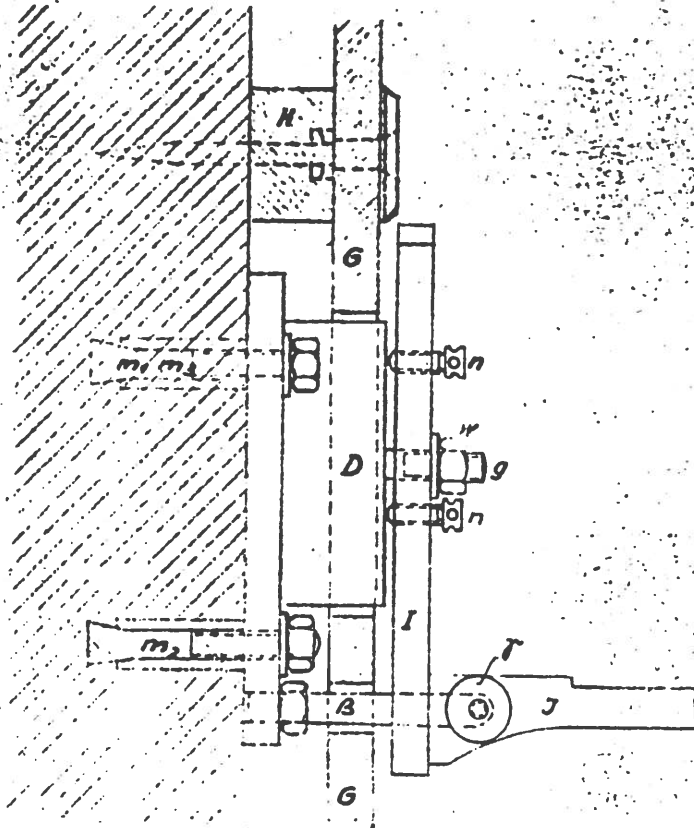
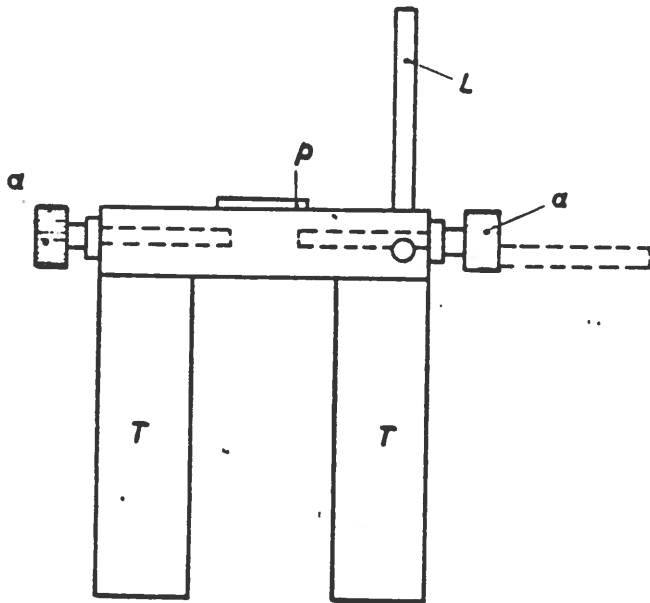

Fig.2 M= 1:3
Fig. 3
5. Fixing of work frame "I" "J" together with the clock work to the wall plate "D" (Fig. 2). First the nut "w" is to be tightened only slightly, then
6. adjust the clock-work so that the surface of the agate-plates "P P" (Fig. 3 - 5), on which rest the steel-knife edges of the pallet, will be horizontal. For this purpose the spirit level must be put in different directions on the small table "O". The correct position will be attained by adjusting the screws "n - n1" (Fig. 2) and the long adjusting screws "r" (Fig. 2). These adjusting screws have their thread in the work frame and are acting on the stay-bolt "B". The said small table "O" is situated at the right upper corner of the escapement, and its surface is parallel to the surface of the agate-plates "P P".
After this, the adjustment nut "w" (Fig. 2) must be fully tightened.
Before suspending the pendulum the stopping lever "L" must be turned into the vertical position, and the screws "a a" (Fig. 3 - 5) by which the lower part "F1" of the pendulum suspension is fixed, shall be fully tightened.
12. Loosening of the pendulum suspension "A1" by turning the stopping-lever "L" (Fig. 3 - 5) from the vertical into the horizontal position. In order to prevent a damage of the steel-knife edges during the transport of the clock the pendulum suspension "A1" is locked, i. e. it is slightly lifted so that the steel knife edges will not get in touch with the agate plates. By turning the lever "L" from the vertical into the horizontal position the pendulum suspension "A1" is moved down, so that the steel-knife edges of the pallet will now rest on the agate-plates "P P", (this installation works similar to the steel-knife edges locking device of a precision balance) whereupon the pallets "S S1" will gear exactly into the teeth of the gears.